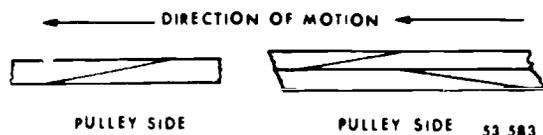

Figure 152. Flat belt lap joint.
**19-6. Endless belts** are used when it is possible. Sometimes the design of a machine will make it impossible to use an endless belt. Never use a laced or hook joint for belting a grinding wheel spindle, because this will set up vibration and cause inaccurate work. The ends of the belt used on a grinder should be joined with a cemented lap, as shown in figure 152.